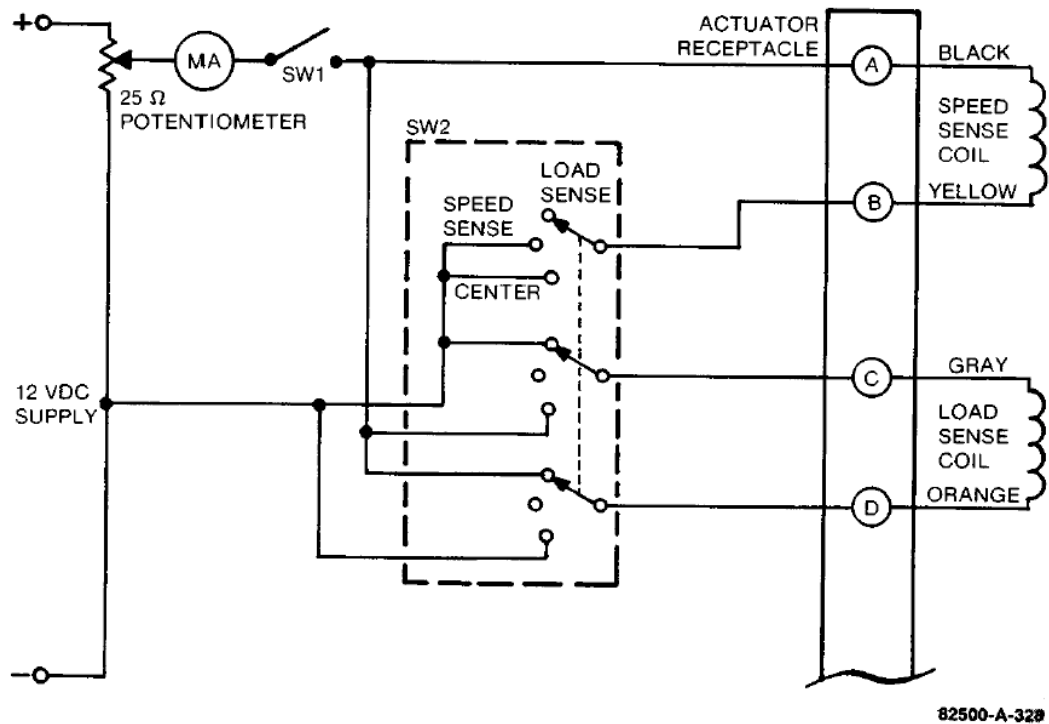

Figure 4-1. Actuator Adjustment Test Circuit
1. Connect the test circuit to the receptacle on the actuator as shown in Figure 4-1. Set SW1 to OFF.
When troubles occur in the governing system, the general location of the fault can be readily isolated to the hydraulic actuator or to the electric control unit by connecting the test circuit shown in Figure 4-1 to the actuator. Set SW2 to LOAD SENSE and operate the actuator by varying the position of the potentiometer; then set SW2 to SPEED SENSE and again operate the actuator by varying the potentiometer. If operation of the actuator appears to be satisfactory, the trouble is in the electric control unit.
In many instances erratic operation and poor repeatability can be corrected by flushing the unit with fuel oil or kerosene while cycling the actuator using the test circuit shown in Figure 4-1. The use of commercial solvents is not recommended as they may damage seals or gaskets.